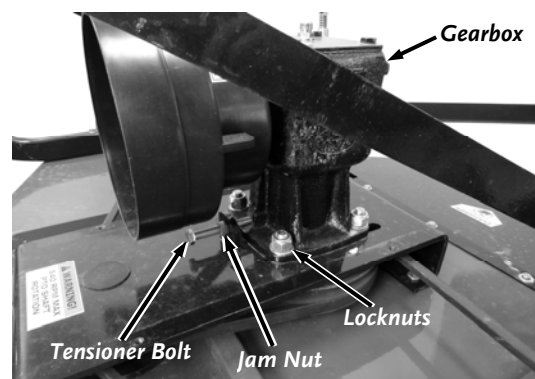

Figure 41
4. Loosen the four Gearbox Locknuts using a 24mm Wrench (**Figure 41**).